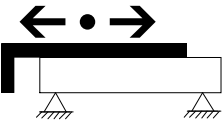

Fig.1
- Slide proximity switches into the slots [7] → Fig. 1.